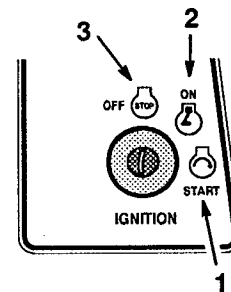

Figure 7
5. Turn the ignition key clockwise and hold it in the "START" position (Fig. 7). When the engine starts, release the key.
2. Turn the ignition key to "OFF" (Fig. 7).